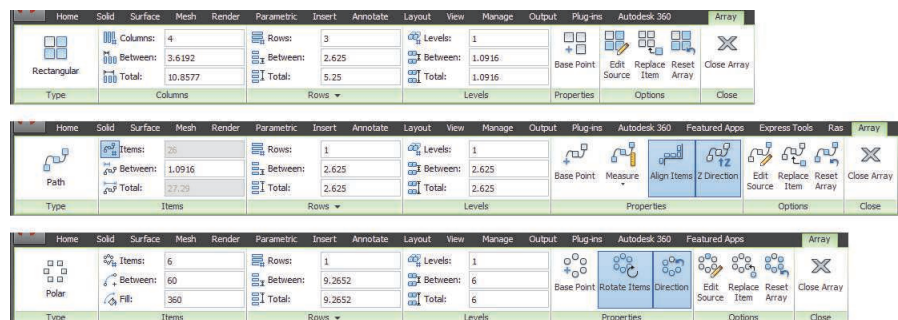

Figure 5–21
- Selecting the single enhanced array selection set displays the *Array* contextual tab, as shown in Figure 5–21, enabling various types of editing.